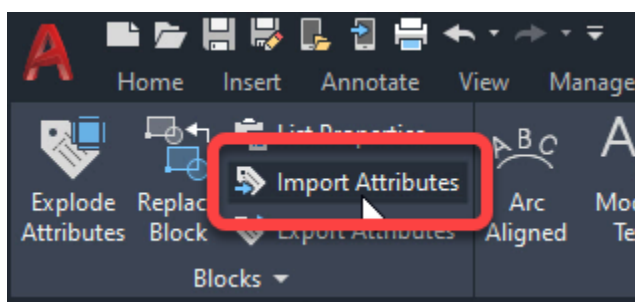

Figure 10: The Import Attributes command on the Express Ribbon tab.
- Choose Import Attributes from the Blocks panel of the Express Ribbon tab as shown in Figure 10. Select the updated file from Excel.